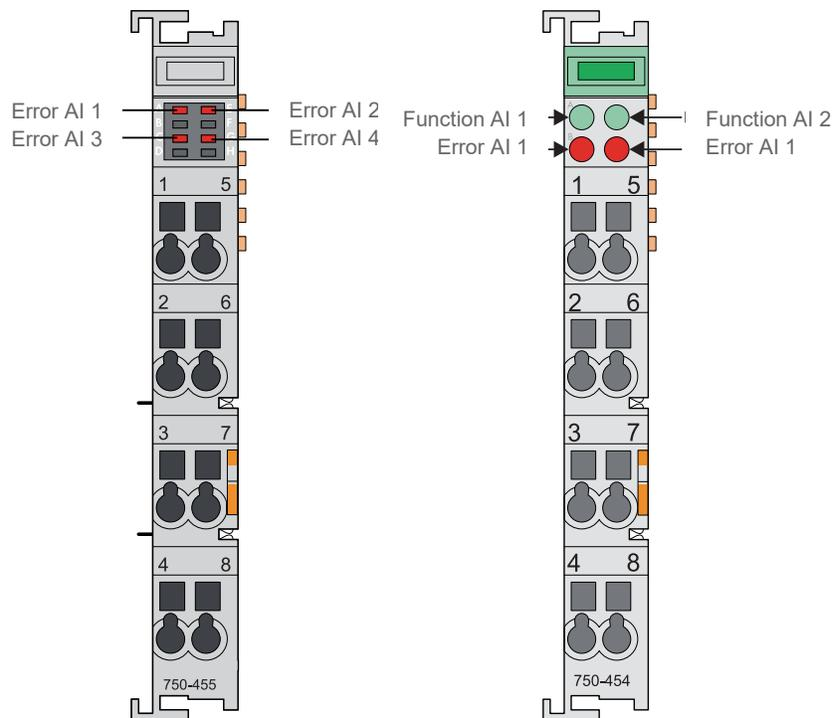

Figure 11: Left: 4-channel analog input module, Right: 2-channel analog input module
Refer to Figure 11 and Table 4 and follow the steps below to connect the analog inputs.
4. Connect the connection cables to the connection terminal for analog inputs (Figure 11 below). Refer to Table 4 below for the correct wire assignment.